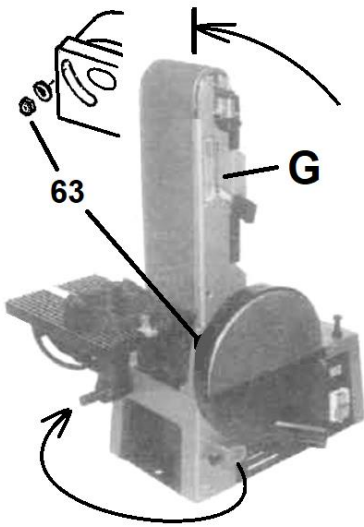

Figure 8-1: Lift the arm for vertical belt sanding
1. Loosen the nut (63, Fig. 8-1) and bring the belt arm (G) in vertical position. Install the sanding table. Set a 90° angle between the sanding table and belt arm. Lock the belt arm in place by tightening the nut (63).